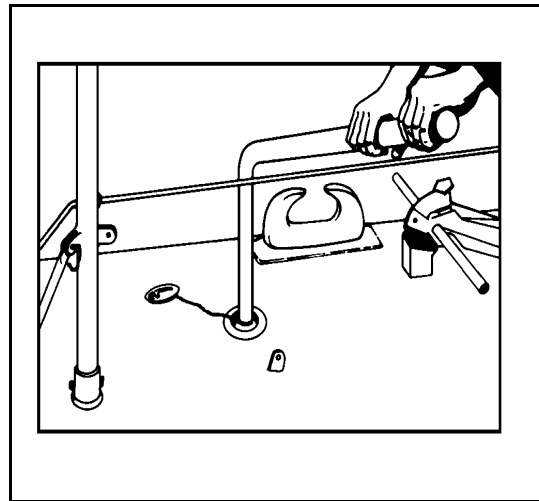

Figure 17-2. Inserting Emergency Tiller
- **Step 3.** Insert the emergency tiller into the rudder stock (Figure 17-2).